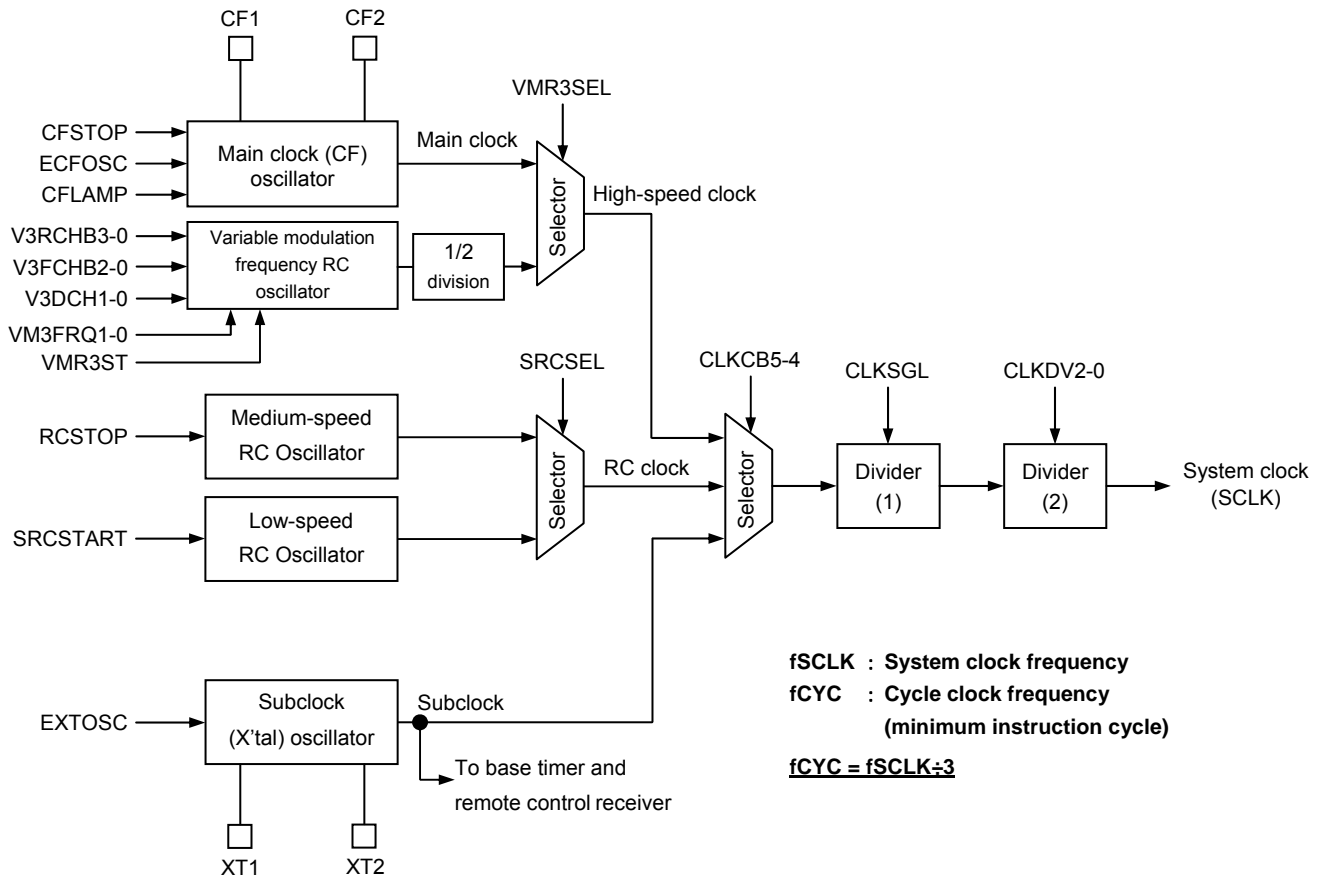

Figure 4.2.1 System Clock Generator Block Diagram
* See Figure 4.2.1 for details.